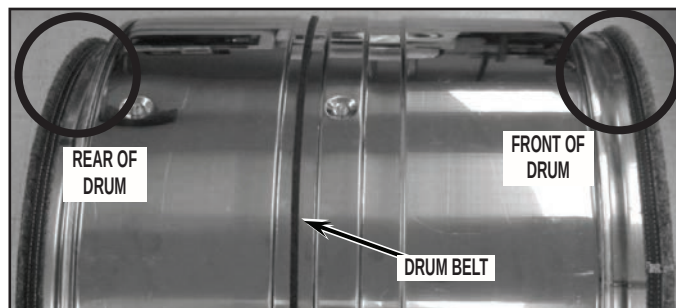

FIGURE 17
IMPORTANT: Note position of drum belt, front and rear orientation for reassembly. The drum front opening is larger than the rear drum opening. See *Figure 17*.
2. When reinstalling the drum, see *Figure 17* for correct drum front direction.